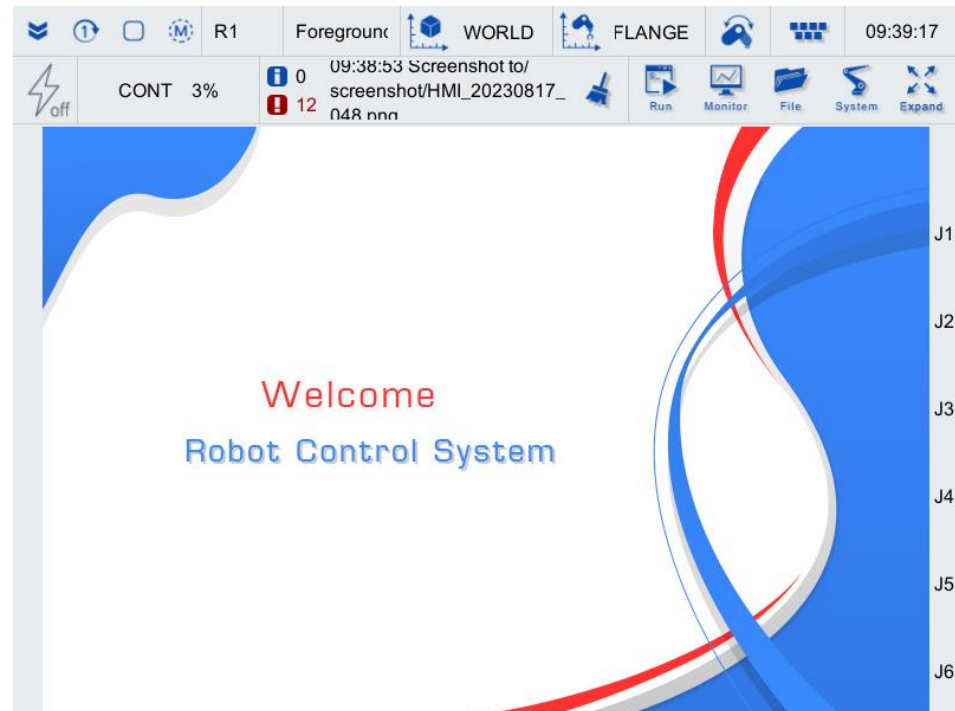

Figure 5-35 Teaching pendant main interface
Step1. Log in to the teach pendant and you will see the main interface of the teach pendant as shown in Figure 5-35.